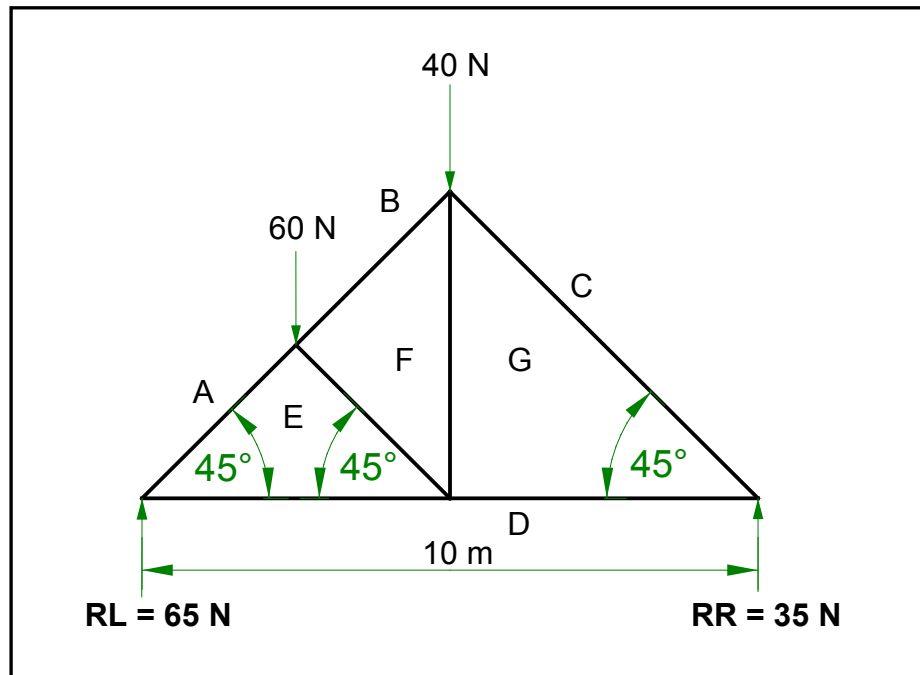

FIGURE 5.2
- 5.2 FIGURE 5.2 shows the space diagram of a truss with two point loads and a span of 10 metres.